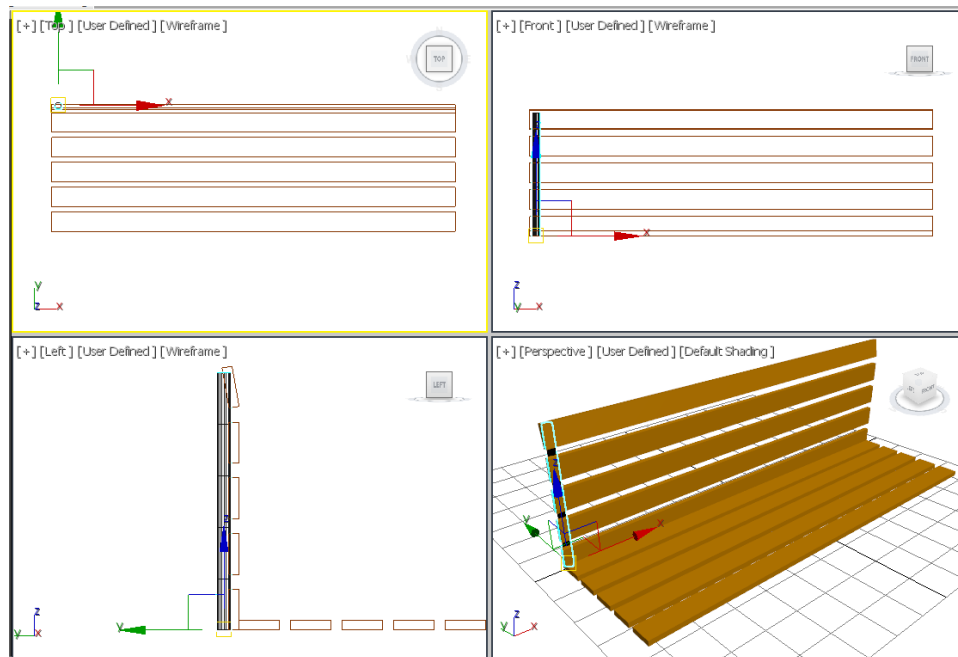

Figure 2-76 The vertical back support001 geometry in viewports
3. Now, choose the **Create** button in the **Keyboard Entry** rollout; a cylinder is created in the viewports, as shown in Figure 2-76.